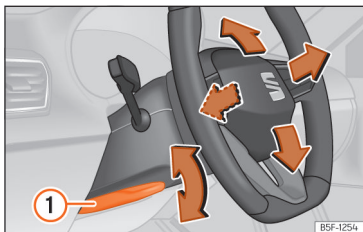

Fig. 65 Lever in the lower left side of the steering column.
- Pull lever >>> Fig. 65 ① down, move the steering wheel to the desired position and lift the lever back up until it locks.
- After adjusting the steering column, push lever >>> Fig. 65 ① firmly upwards so that the steering wheel does not accidentally change position while driving.